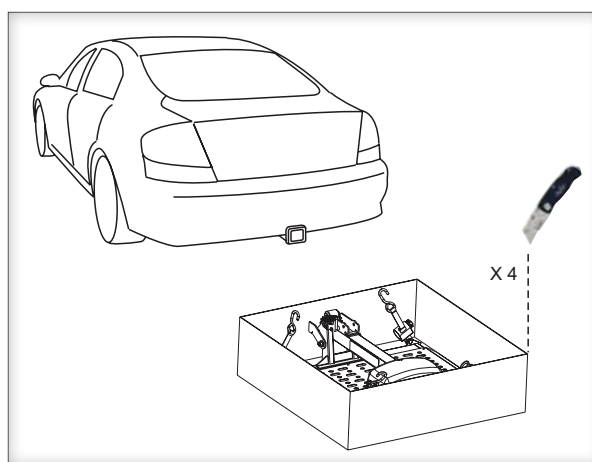

Figure 15-1
**2. Position the open box behind the vehicle.** Slice the corner seams. [Figure 15-1]